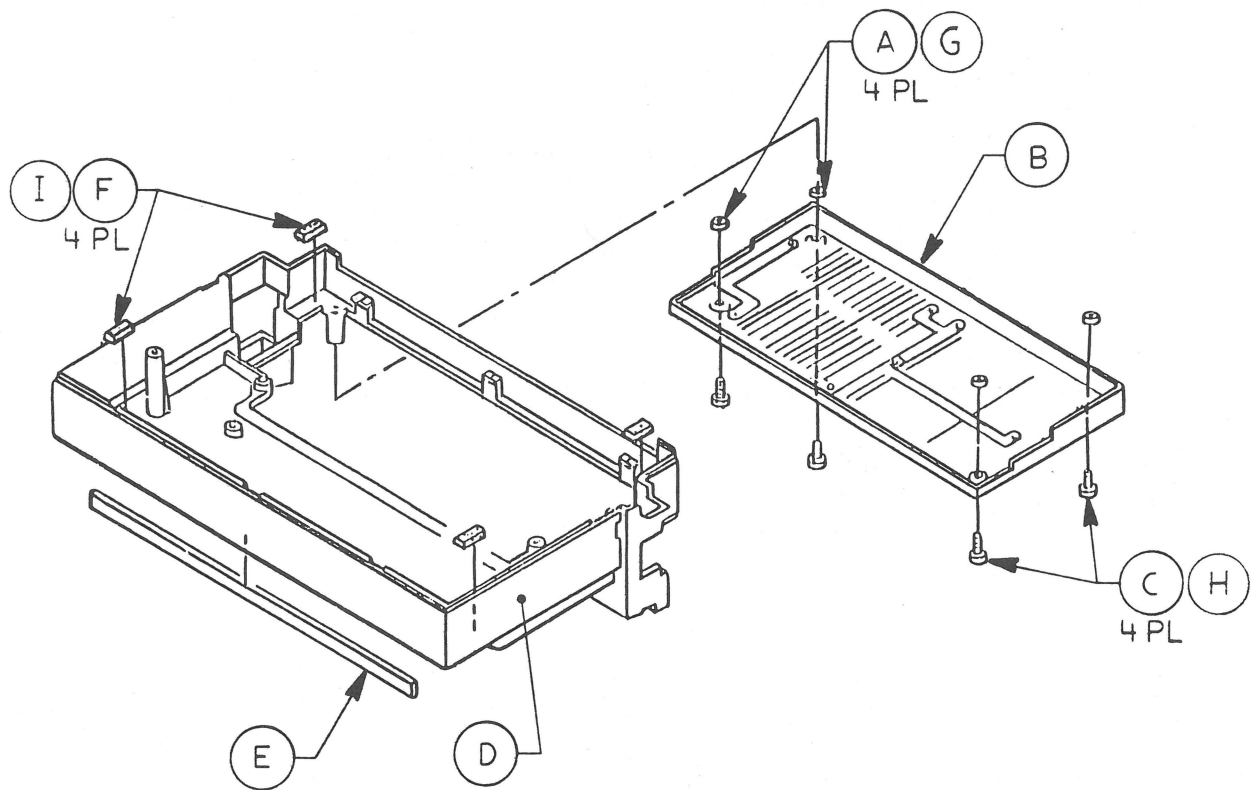

FIGURE 22
□ BOTTOM COVER ASSEMBLY (Figure 22)